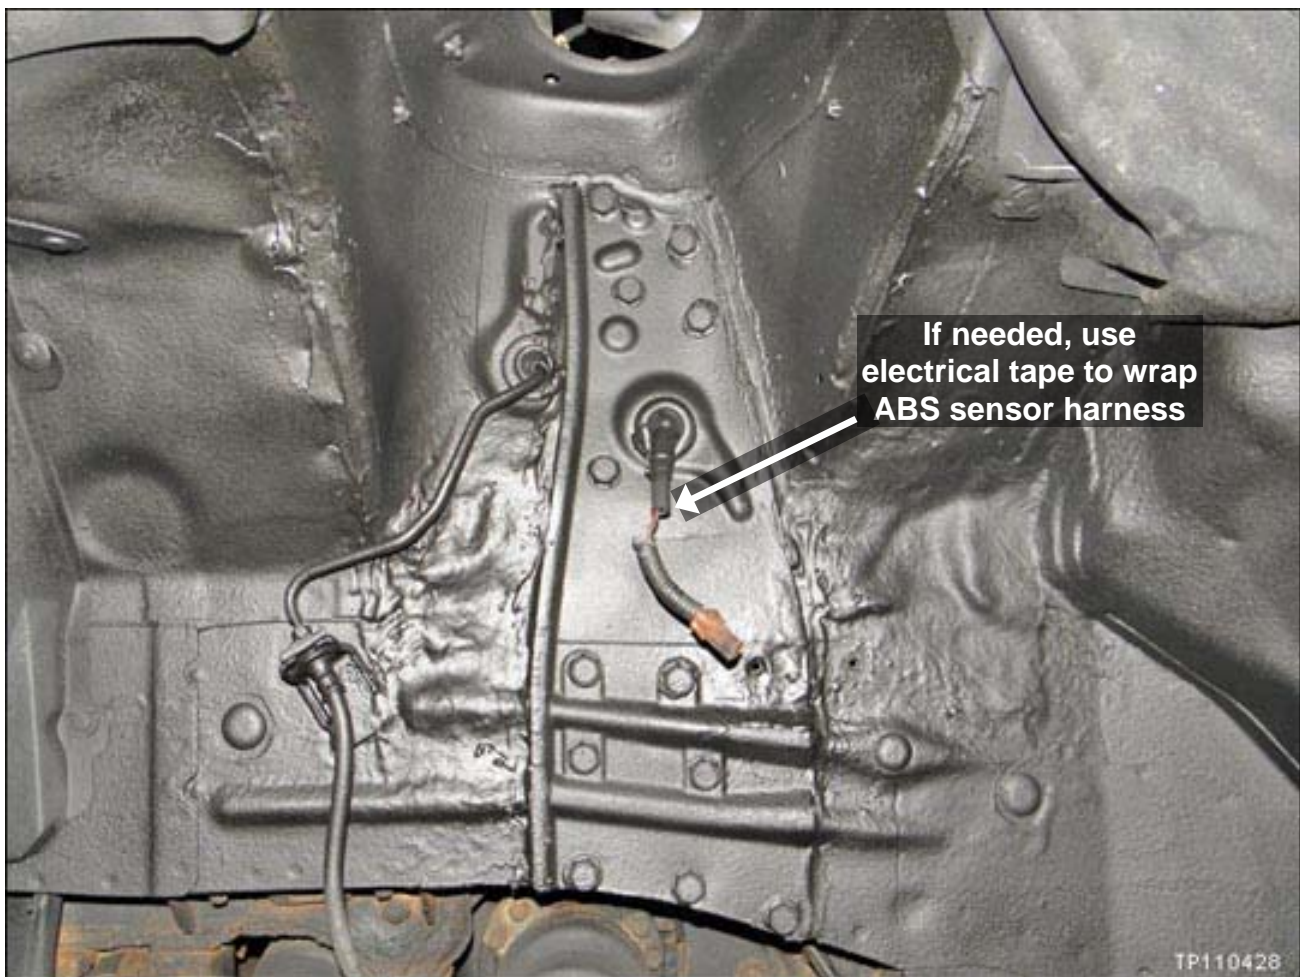

Figure RB33
40. Completely and liberally coat the area shown in Figure RB33 (strut housing and wheel house area) with rubberized undercoat.